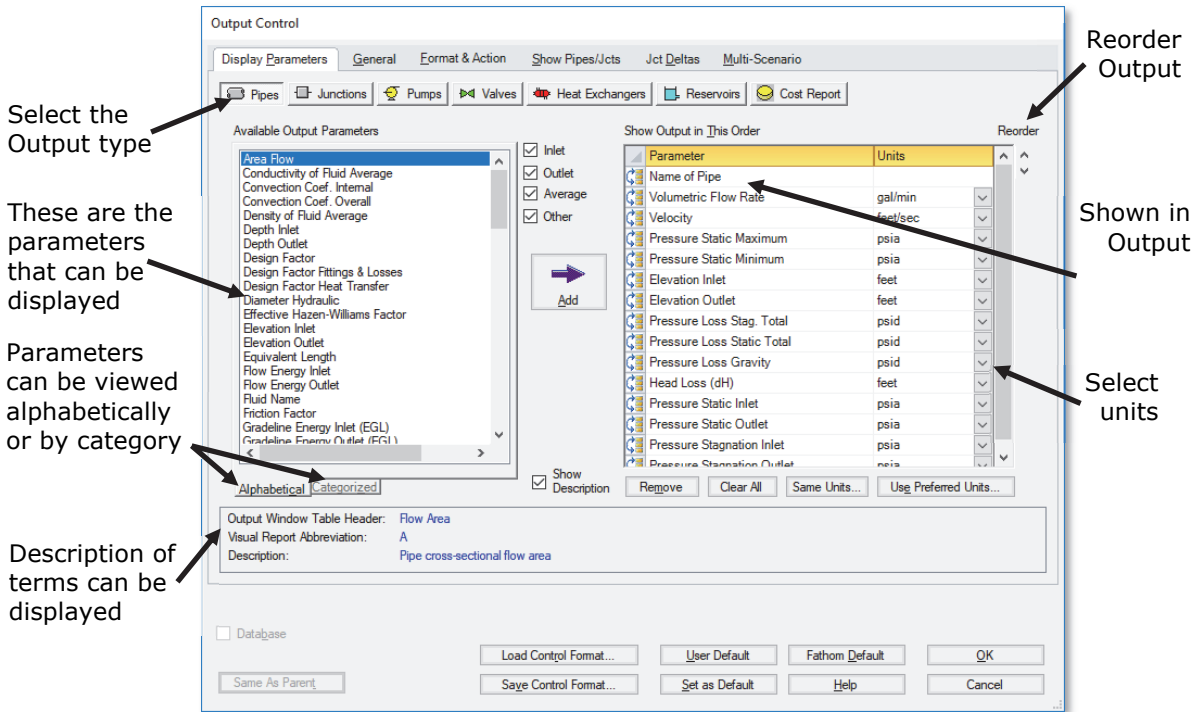

Figure 2.16 The Output Control window lets you customize the output
The Output Control window (Figure 2.16) allows you to select the specific output parameters you want in your output. You also can choose the units for the output.
- **Select Output Control from the Tools menu** or Main Toolbar to open the Output Control Window (see Figure 2.16). On the Display Parameters tab, select the Pipes button. The list of selected pipe output parameters will be displayed on the right-hand side. Change the units for Volumetric Flow Rate by selecting gal/hr (gallons per hour) from the unit list shown beside the parameter.
- **Select Output Control from the Tools menu one more time.** Select the Display Parameters tab and select the Pipe button. The Reorder scroll bar on the far right allows you to reorder parameters in the list. You can also click on the reorder symbol on the left side of each row to manually drag-and-drop the rows to change the parameter order (see Figure 2.16).